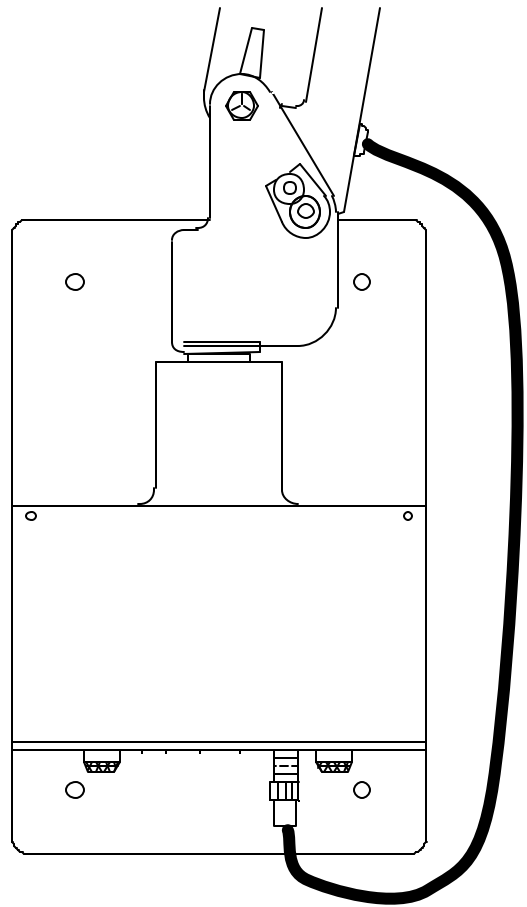

Figure 5.
6. Attach the arm coax pig tail cable to the exposed “F” fitting on the bottom of the supply. Wrench tighten. See Figure 5.